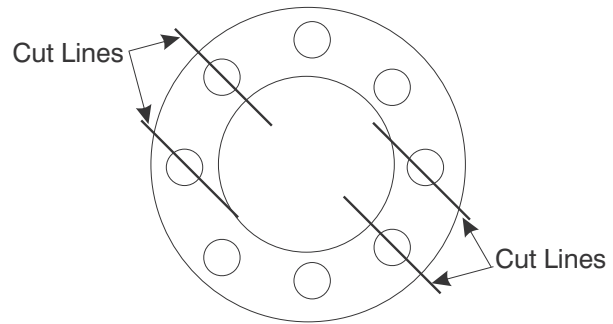

Figure 8-21. Cutting Pattern for Shock Absorber
6. Use a sharp knife or hack saw to cut through the Shock Absorber (15), and remove it from the Valve Guide (14). See Figure 8-21.